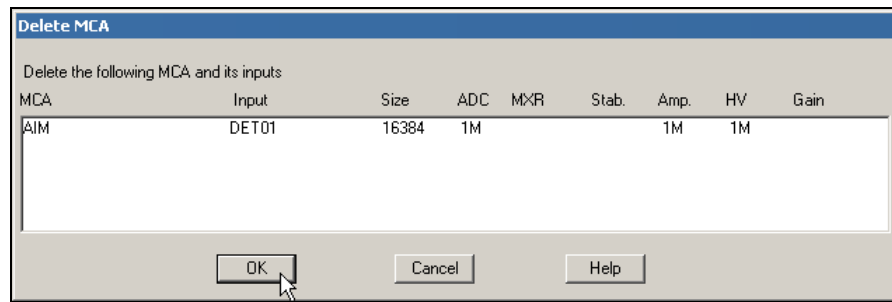

Figure 6 The Delete MCA Dialog
2. Select **Edit | Delete MCA** to open the Delete MCA dialog box (Figure 6). Click on **OK** or click twice on the entry in the table to remove the entry.